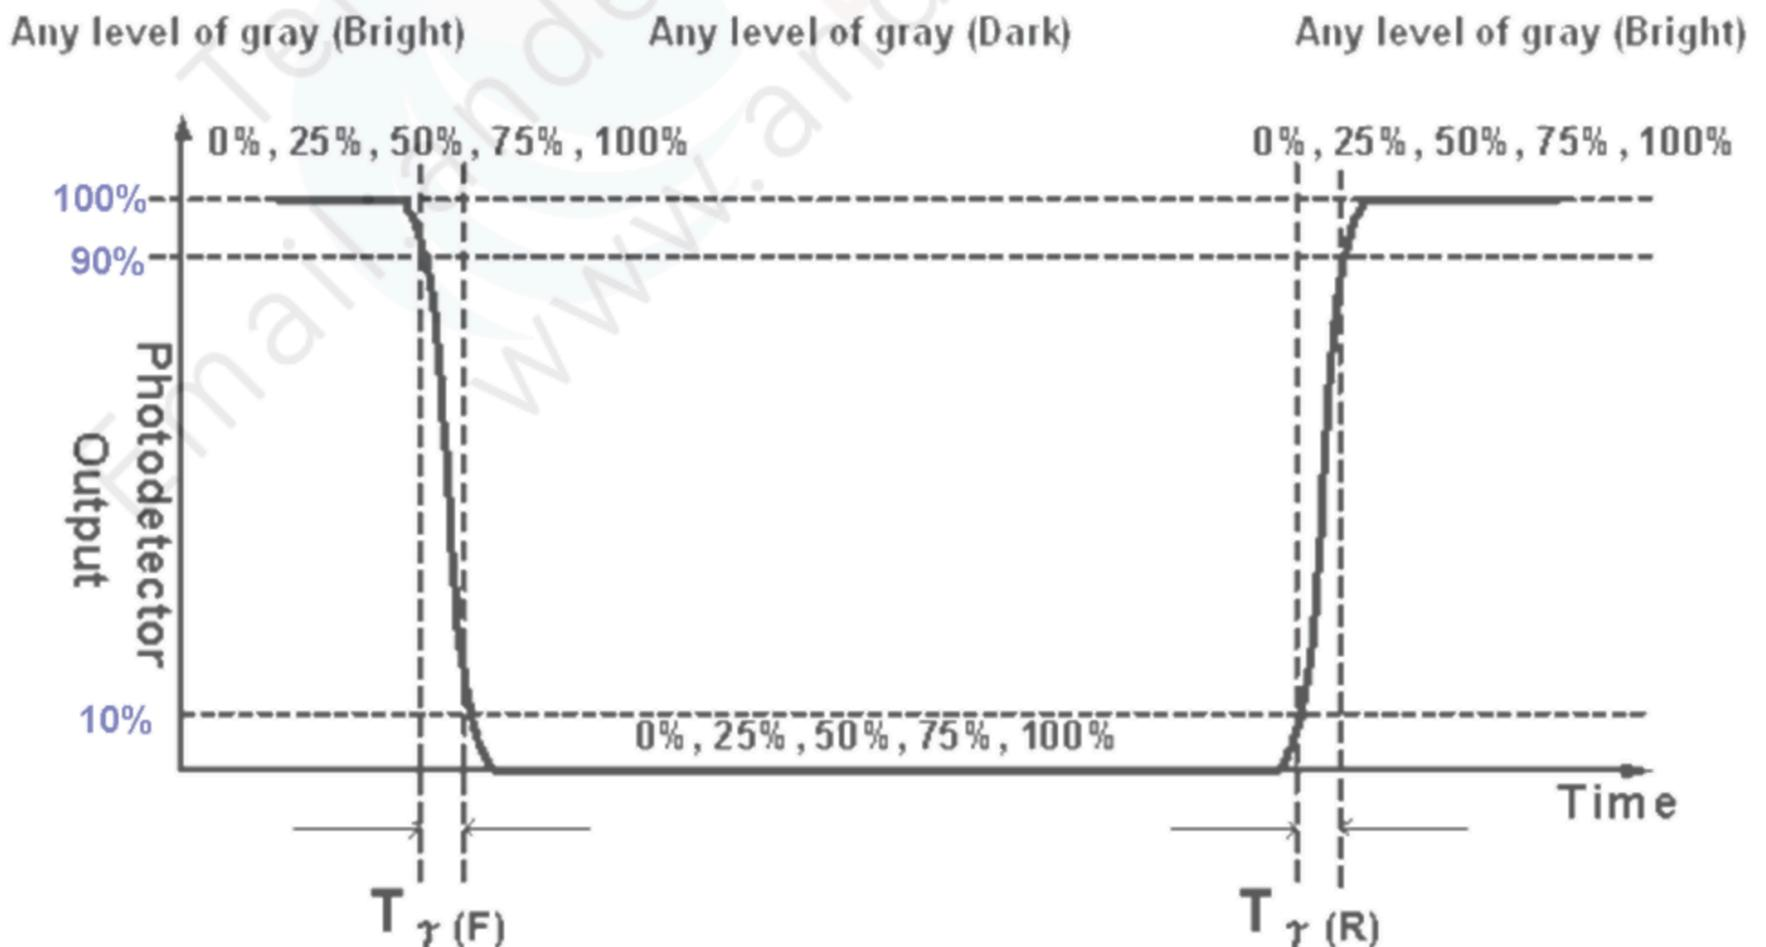

Fig. 2 Luminance
2. Surface luminance is luminance value at point 5 across the LCD surface 50cm from the surface with all pixels displaying white. From more information see Fig. 2. LED current I_F = typical value (without driver board), LED input V_{DDb} =24V, I_{DDb} = Typical value (with driver board), $L_{WH}=L_{on5}$ where L_{on5} is the luminance with all pixels displaying white at center 5 location.